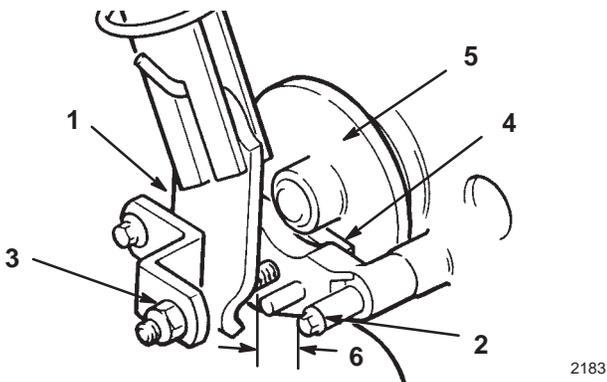

Figure 26
2. Measure distance between disc brake actuating arm and stop pin on axle bracket assembly (Fig. 26). Distance should be less than 6 mm (1/4 inch).
3. If distance is greater than 6 mm (1/4 inch), tighten locknut to decrease distance between actuating arm and stop pin (Fig. 26).
4. With the brake lever OFF, check clearance between brake pads and disc with a feeler gauge (Fig. 26). Proper clearance is approximately .25 mm (.010 inch).